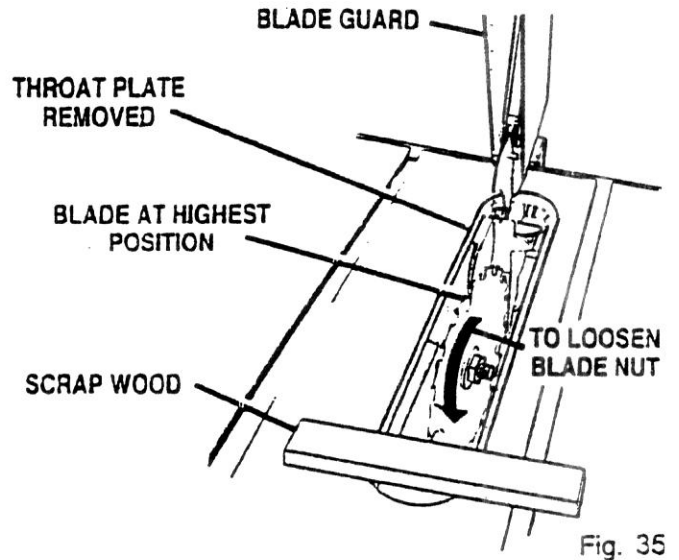

Fig. 35
See Figures 35, 36 and 37
- Raise the blade to its highest position by turning the height handwheel clockwise. Angle the blade straight up by loosening the bevel lock handle and turning the bevel handwheel. Wedge a piece of scrap wood against the front of the blade. See Figure 35